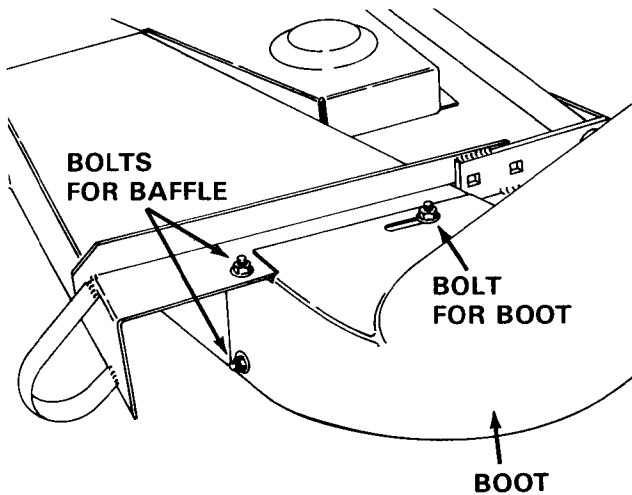

FIGURE 6
1. Attach the dump cart side panels to the rear stakes as shown in Figure 6. Leave bolts loose.